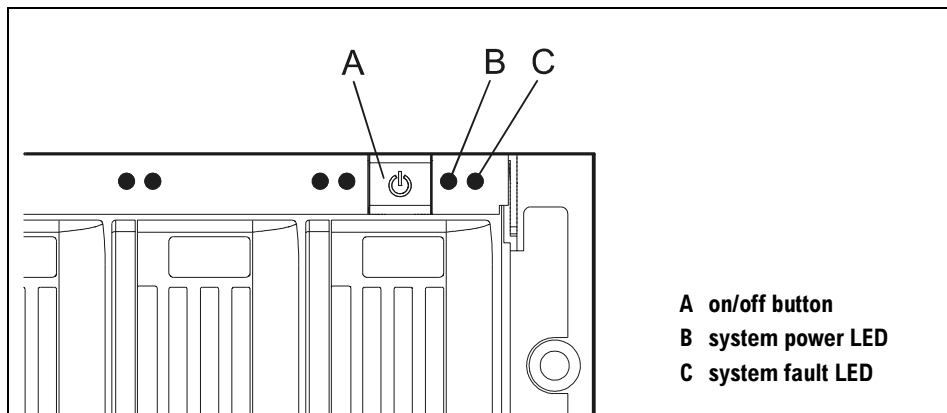

Figure 31 On/Off Button and System LEDs
1. Press the power button (A in Figure 31) to turn on the disk system.
2. Watch the system LEDs for confirmation that the product is operational. The power LED (B) should be green, and the fault LED (C) should be off.